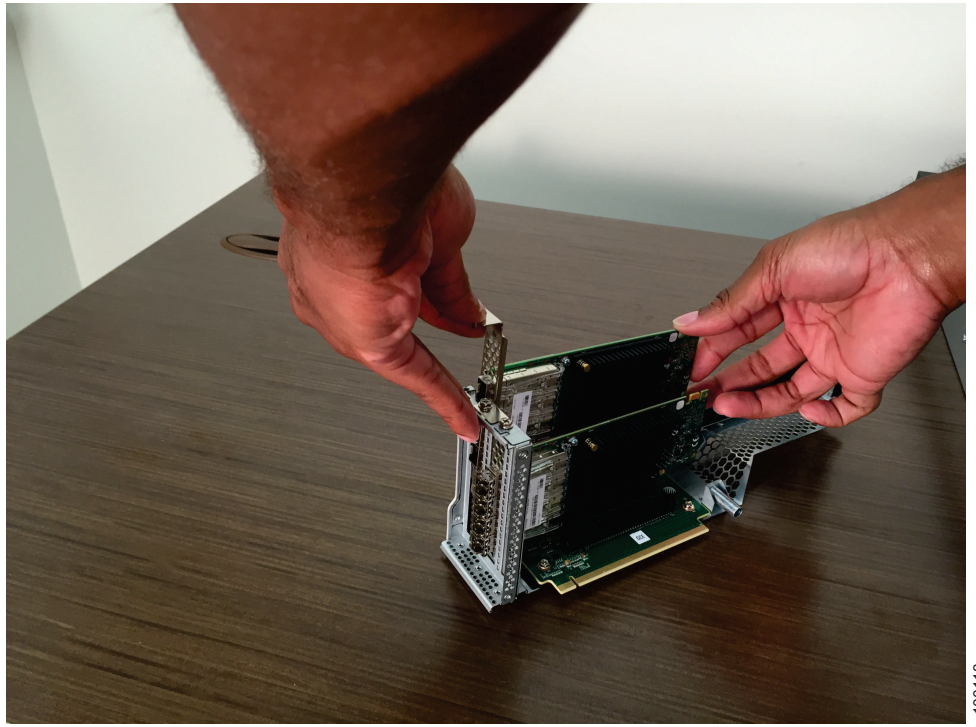

Figure 157. Inserting the adapter into the PCI connector
1. Align the adapter with the PCI connector on the riser card and the guide on the external end of the riser-card assembly, as shown in Figure 157.